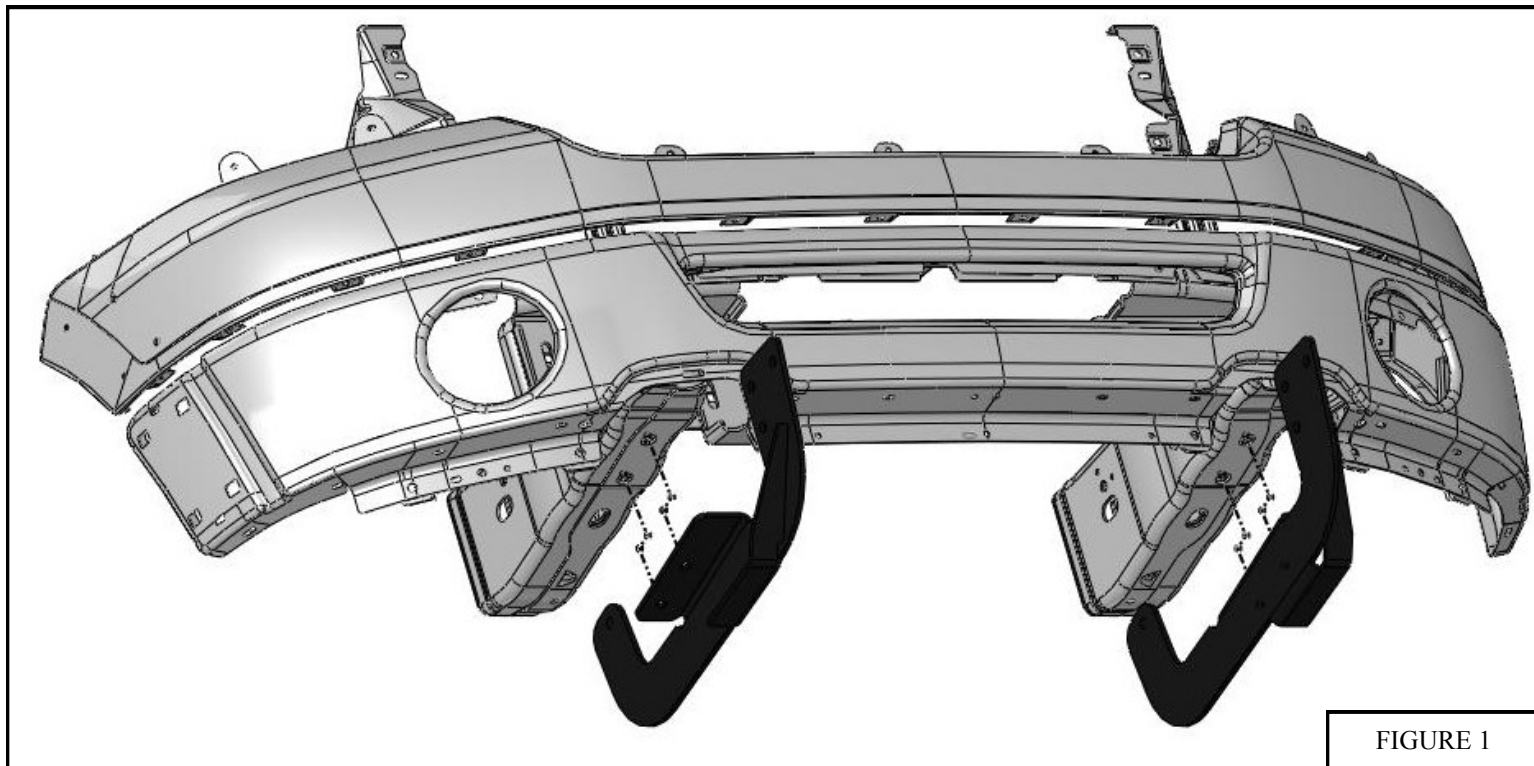

FIGURE 1
7. Insert each lower mounting bracket through the lower bumper valance and secure to the vehicle frame. Secure the mounting bracket to the M12 single stud plates with one M12 flat washer (ITEM 11) , one M12 lock washer (ITEM 8), and one M12 hex nut per side (ITEM 9) . Do not fully tighten at this time. (FIGURE 1, 7)